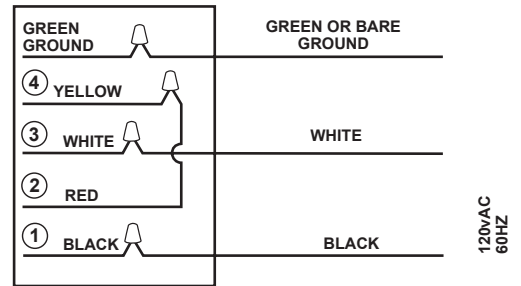

FIGURE 4
2. For 120 Volt operation, make wiring connections as shown in Figure 4.